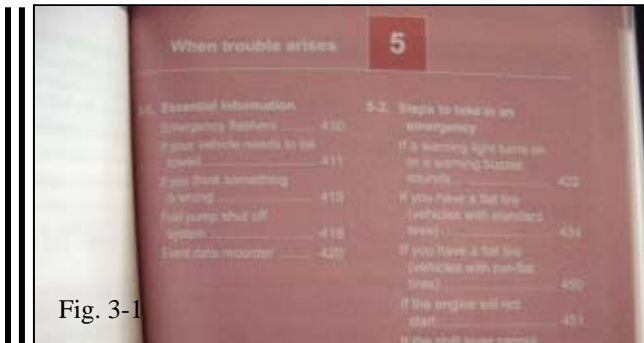

Fig. 3-1
- (b) Open to Table of Contents. Go to Section 5, page 440 "When Trouble Arises" (Fig 3-1)